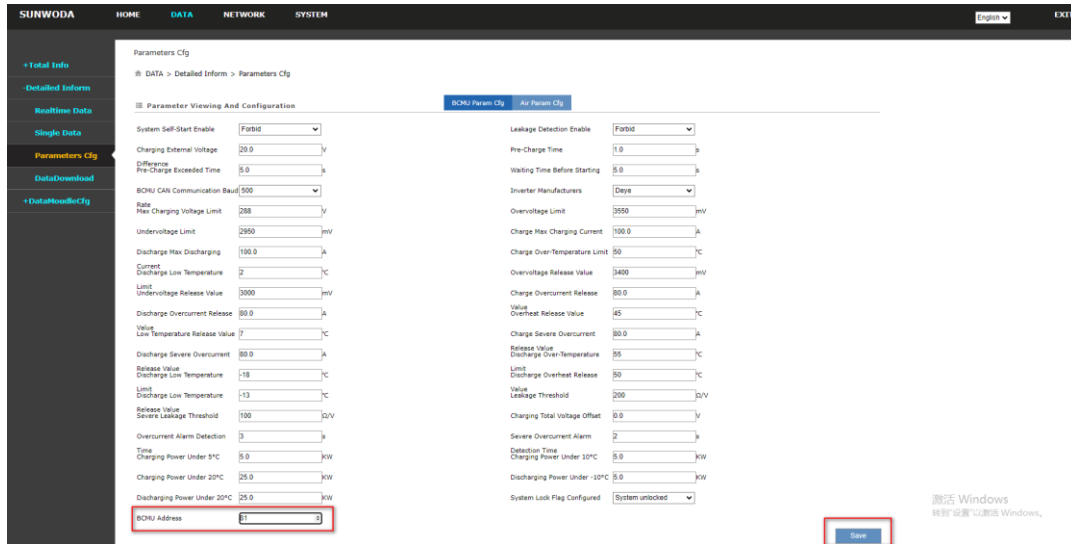

Figure. 4.13
(8) Set the battery cabinet address to "81" on the following screen, and click Set (Fig.4.13).